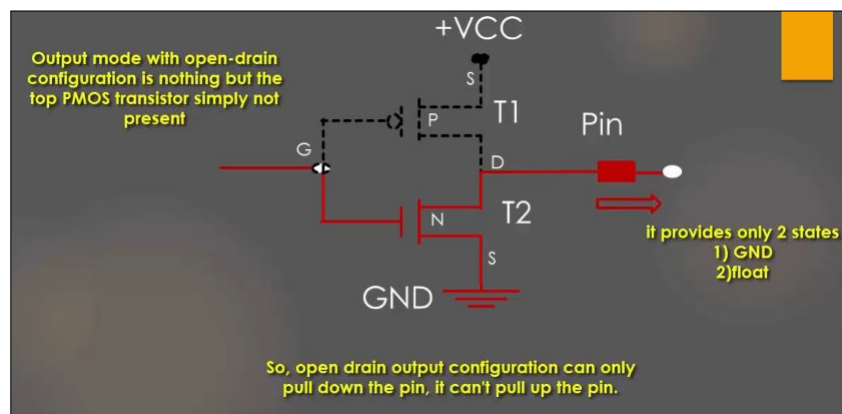
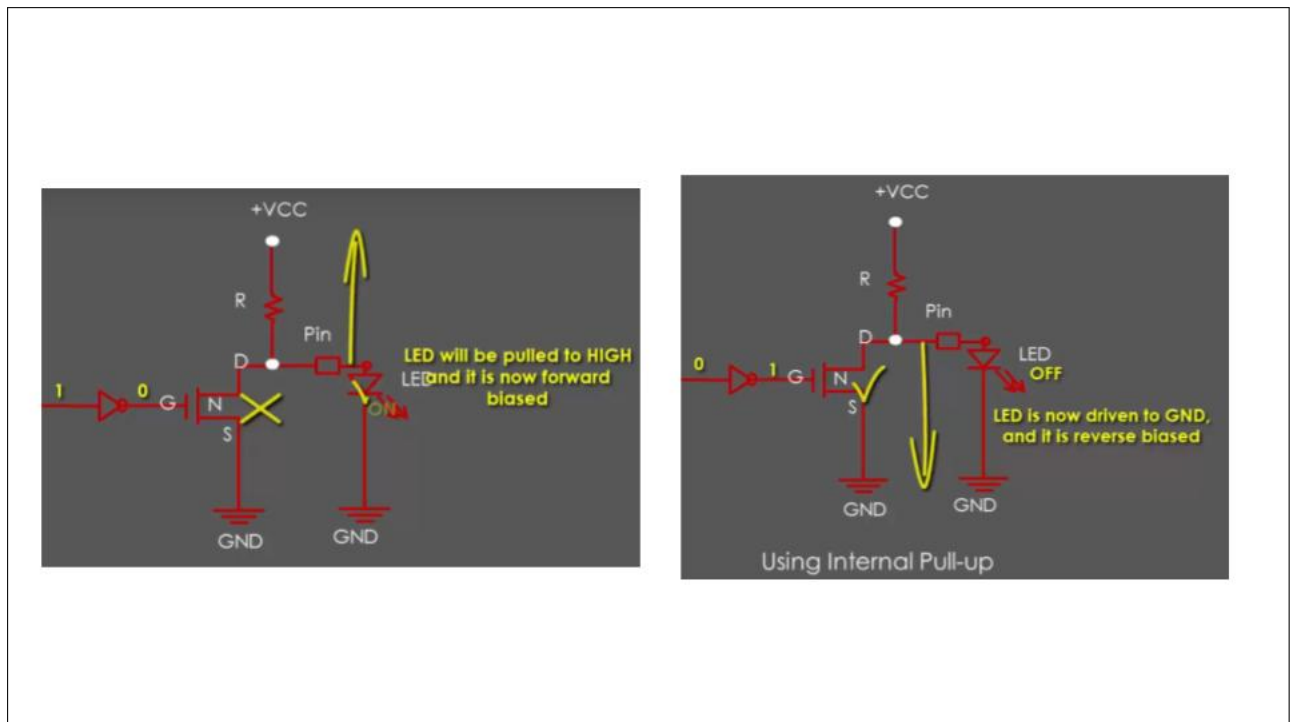

Figure 2.4: Pin in Open drain state
Figure 2.5: Open drain with LED driving application
Figure 2.4 shows a pin in the open drain state.
An example for LED driving is shown in Figure 2.5.
- This state is called push pull because the output will be pulled between high or low depending on the 2 transistors, unlike the open drain state (see Figure 2.4) where the pin can be only pulled to ground, and we need some pull up resistors (as in Figure 2.5) to change the state high or low
Recall from 2.1.2, that open drain we have only N-MOS transistor, and the pin state is either float or GND (see Figure 2.4).